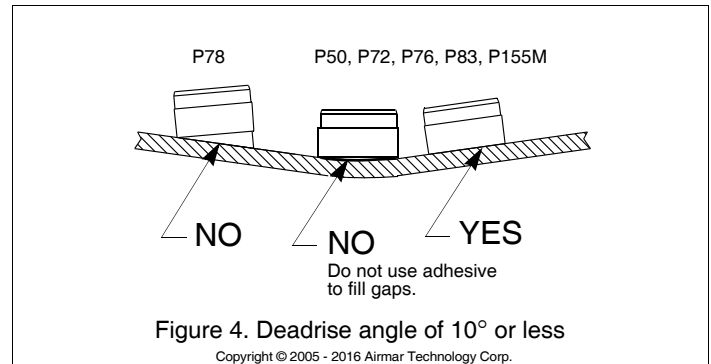

Figure 4. Deadrise angle of 10° or less
4. Press the transducer face onto the hull with a twisting motion to **expel all air bubbles**. Do not use adhesive to fill gaps (see Figure 4, 5, or 6). (If the hull is slanted, temporarily secure the transducer in place with duct tape.) The adhesive supplied by Airmar is cured in 24 hours at 21°C (70°F). The lower the temperature the longer the cure time.